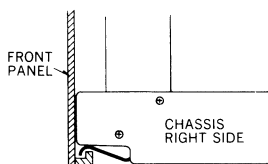
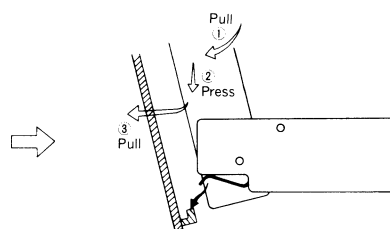

Fig. 4
Fig. 5
9. Remove the front panel from the chassis. (Fig. 4 to Fig. 5).